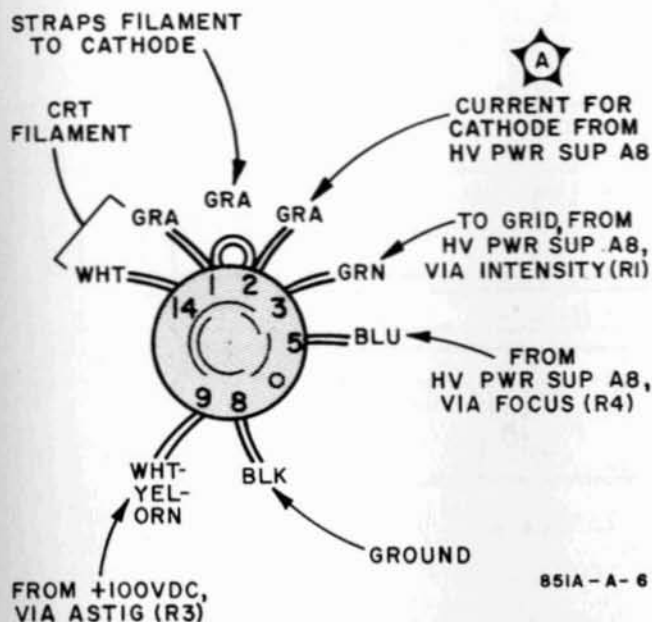

Figure 5-2. CRT Base as Seen from Rear, CRT Protective Cover Removed
- (1) Wiring to CRT base is shown in Figure 5-2. Note gray wire designated A; clip Milliammeter probe around gray conductor A.